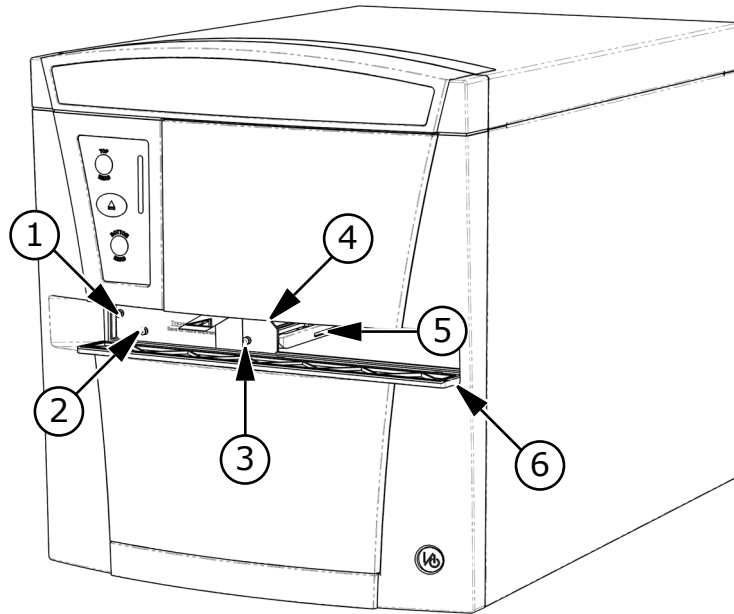

Figure 1-7 Microplate Drawer Transport Lock (plate transport)
- 12.** Gently pull the plastic tab protruding from the microplate chamber door. The door opens, revealing the transport lock that fastens the microplate drawer to the internal frame of the instrument (Figure 1-7). The microplate drawer door must be held open manually while removing the transport lock.
- 13.** Using the 2.0 mm Allen wrench, loosen screw #1 in the upper-left corner of the transport lock until the lock disconnects from the instrument frame (Figure 1-7). The screw is equipped with a retaining washer that prevents it from being removed from the lock.
- 14.** Loosen screws #2 and #3 until the lock comes free of the microplate drawer (Figure 1-7). The screws are equipped with retaining washers that prevent them from being removed from the lock. Store the transport lock in the instrument accessories toolbox.